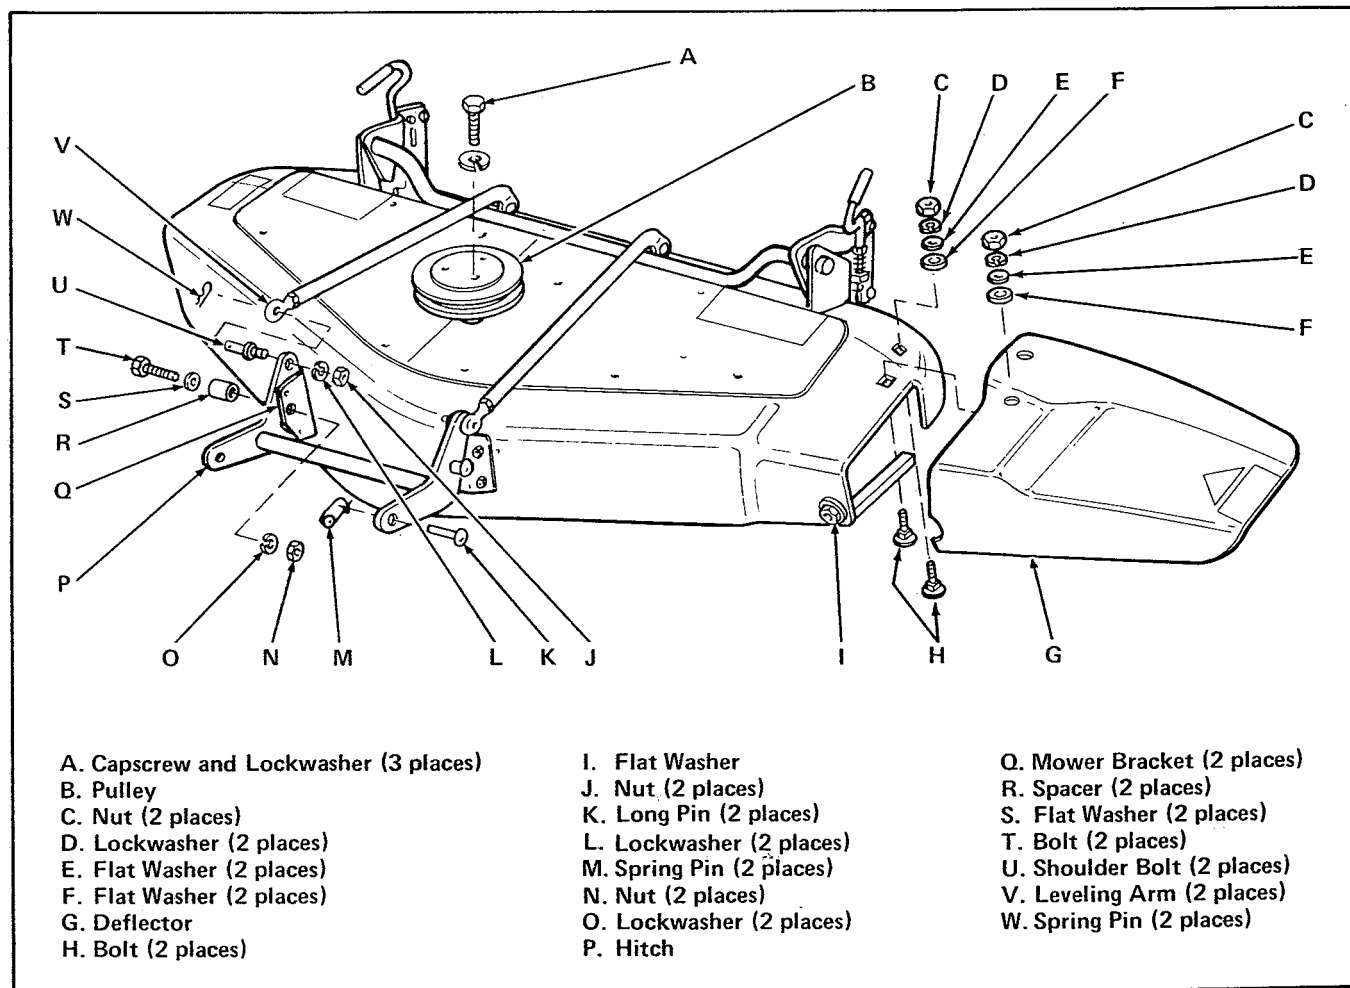

Figure 22. Assembly of 42" Mower with 5-1/8" Pulley
1. Align the hitch (item P, figure 22) with the lower holes of the mower mounting bracket (item Q).
bolts (item U) through the holes in the hitch as shown in figure 22.